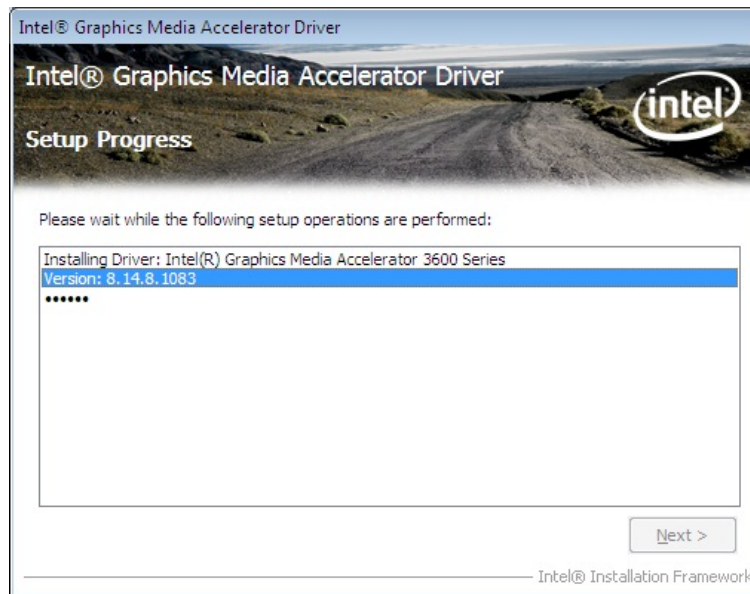

Figure 6-12: Graphics Driver Setup Operations
Step 12: **Setup Operations** are performed as shown in **Figure 6-12**.